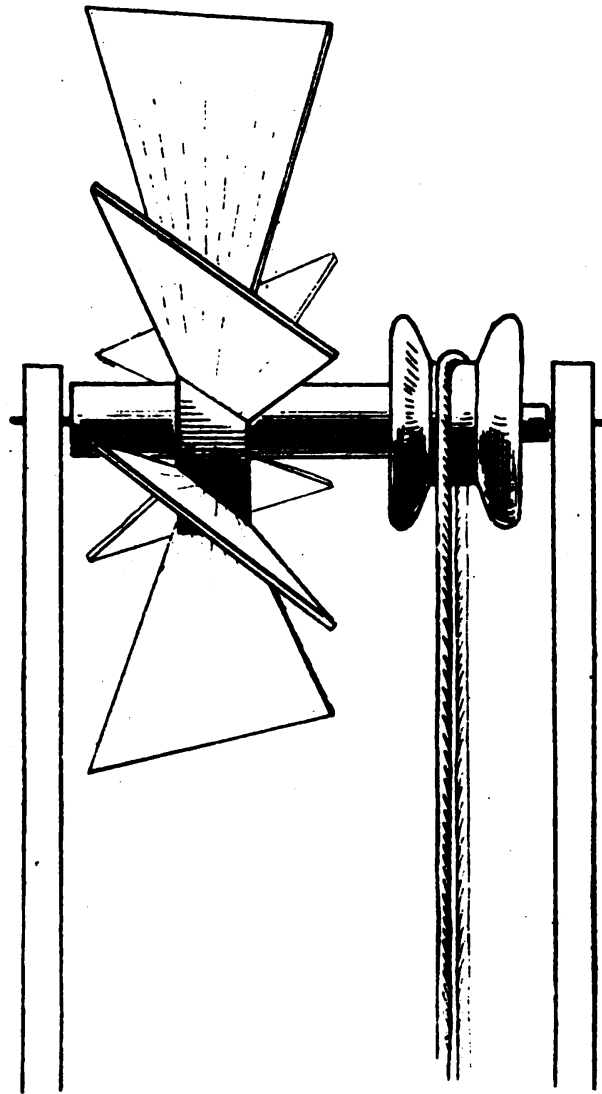

FIG. 67.
hub at the other; (3) a hardwood axle; and (4) a driving wheel. For this last a cotton reel will do splendidly, especially one of those with wide flanges and a slender centre. The general arrangement is shown in Fig. 67.